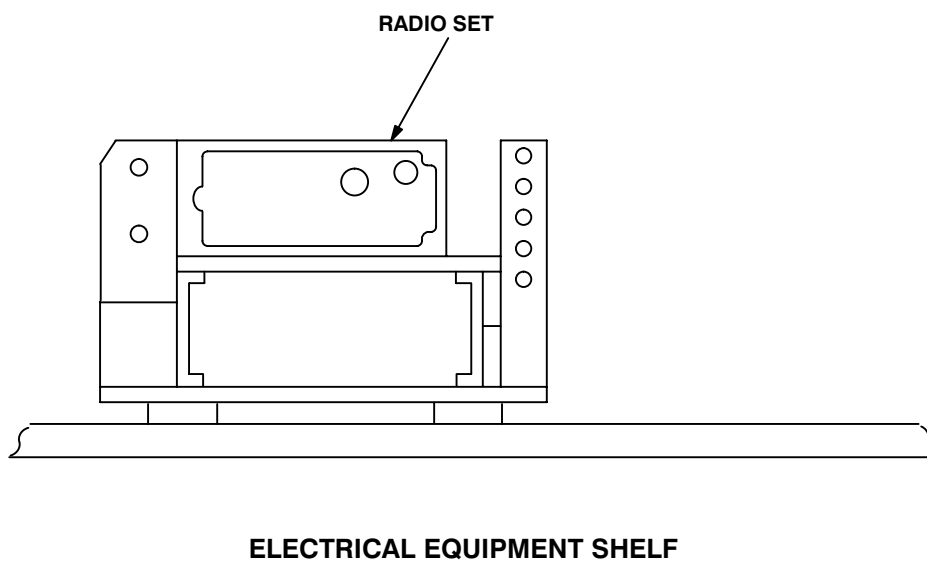

Figure 5-1 (2). MK and Radio Installation: Radio Equipment Locations
5.1.1 Installation of Antenna Base. Use the following procedures to install antenna base. See Figure 5-1(1) for location.